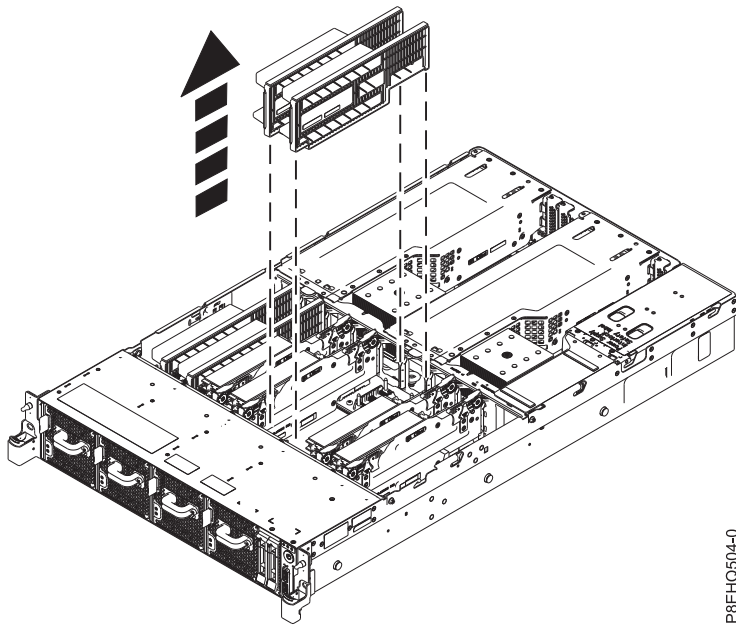

Figure 31. Removing two fillers from the system
3. For each riser you are installing, remove a filler from the target slot. See Figure 31.